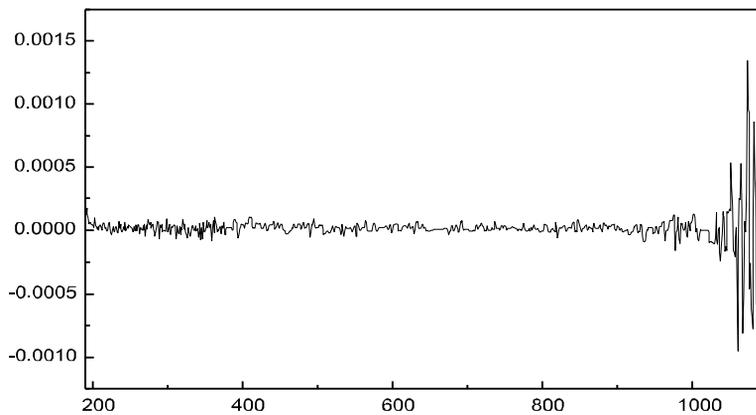
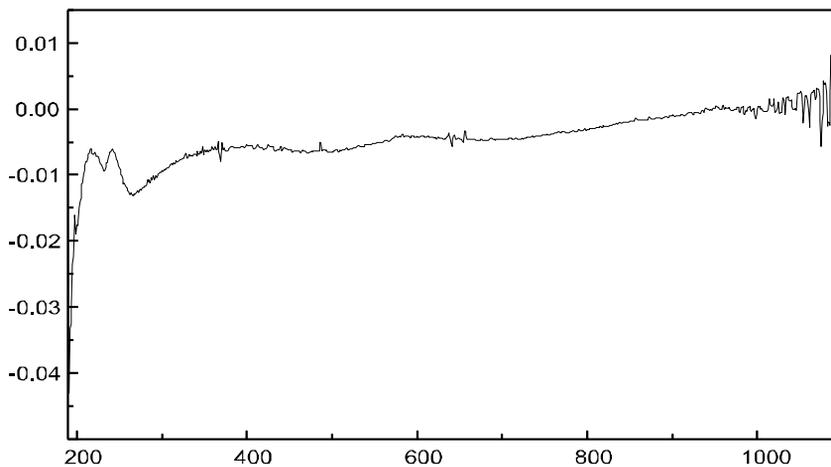

Figure 12 Example of a Blank on Water Showing a Good Baseline
Figure 13 Example of a Blank on Water with Bubbles Causing a Poor Baseline
- ✓ Blank measurement shows a flat baseline (Figure 12 and Figure 13 on page 38 show a good and a poor baseline)
If your blank or spectra shows artifacts similar to the one in Figure 13, see “Solvents” on page 34 to optimize the measurement procedure.